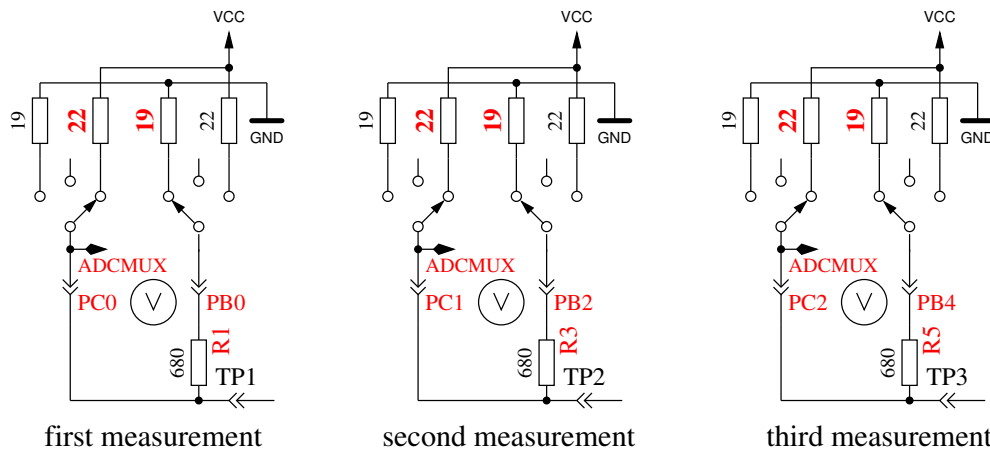

Figure 5.46: Measurement of internal resistance of Port C switched to VCC
8. **Measuring of internal resistance of port outputs switched to the VCC (+)signal.** The needed current is generated with to GND connected 680Ω resistors . It are the same measurements as those in test 7 to the other side as you can see in Figure 5.46. With the following steps the resistance is computed: To get the current, the following is computed: $(VCC - (resultoftest7) - (resultoftest8))/680$. To get both resistor values, the voltage (result of test 7 or 8) is divided by this current. The result for this test will then be notified in row 1 with the text "RI.Hi=", the resistance value (Ω) to the GND side is displayed in row 2 with the text "RI.Lo=". Both results will be written to the EEprom memory and will be used for further measurement.